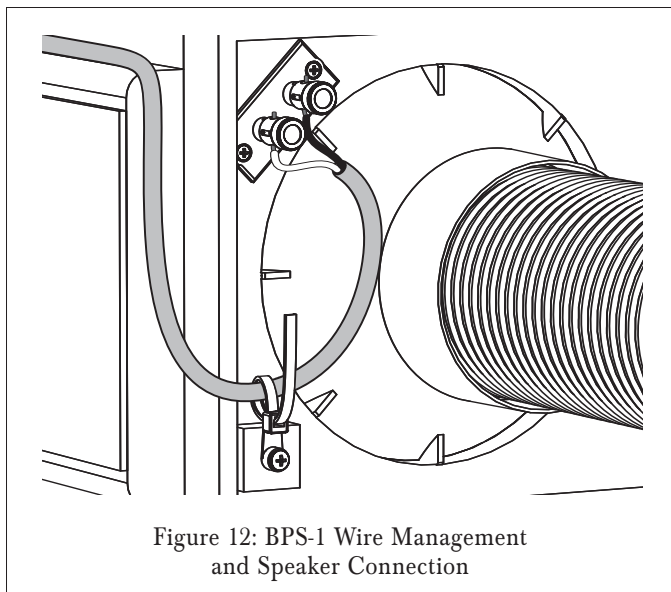

Figure 12: BPS-1 Wire Management and Speaker Connection
2. Pass the speaker wire through the BPS-1's built-in wire tie, and route the wire's end to the speaker connector panel (see Figure 12).